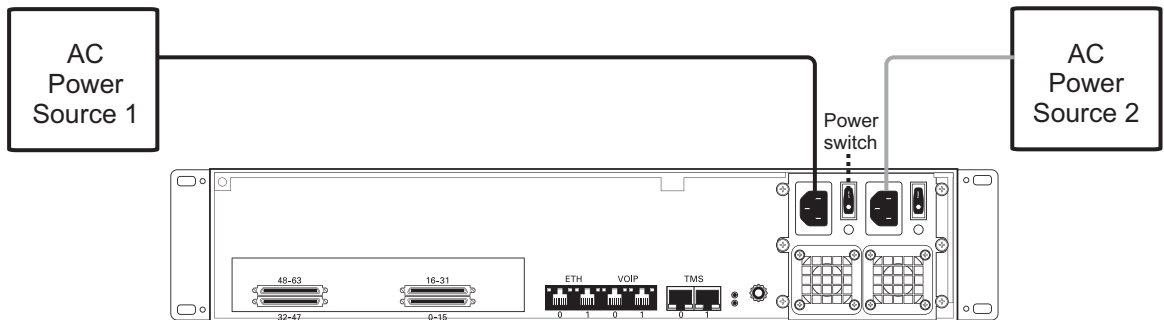

Figure 4.11 AC Power Connection
1. Connect an AC power cable between the AC connector of the 7800 Telecom Unit and an AC supply. See figure 4.11 on page 36.
**Note** If the 7800 Telecom Unit features a second power supply and it is not connected to an AC power source, press the green button located at the rear of the unit to disable the audible alarm. See figure 4.11 on page 36.